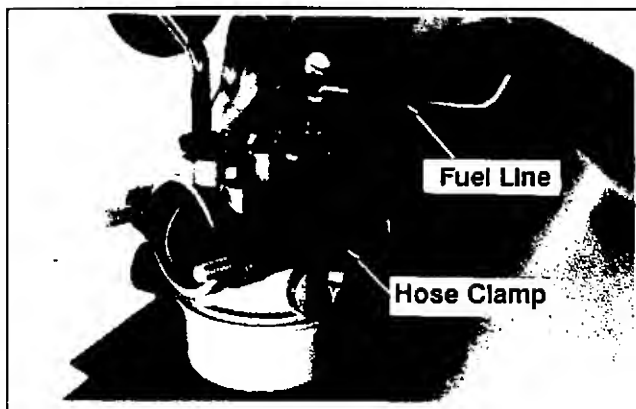

Figure 11-34. Connecting Fuel Line.
3. Install the fuel line on the carburetor inlet fitting. Secure the fuel line with a hose clamp. See Figure 11-34.